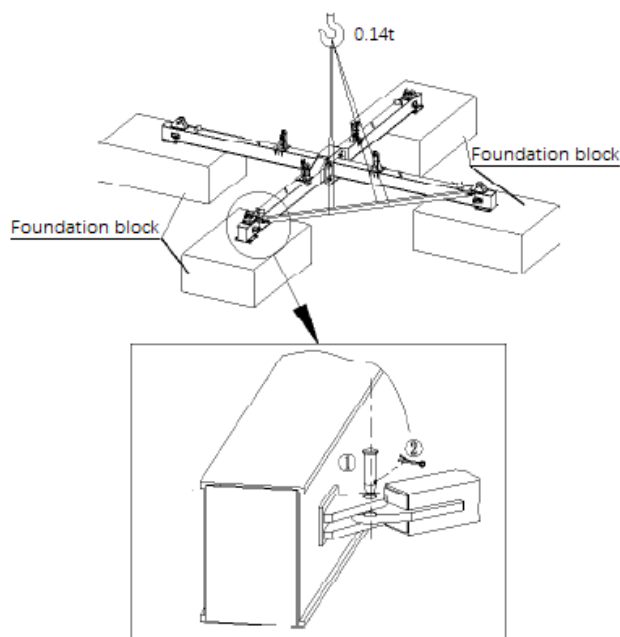

Fig. 4-61 Installing the tie rod
- See Fig. 4-61, the tie rod connected to long and short cross beam respectively by 2 $\Phi 30 \times 105$ pins. Install another 3 tie rods as the same way.